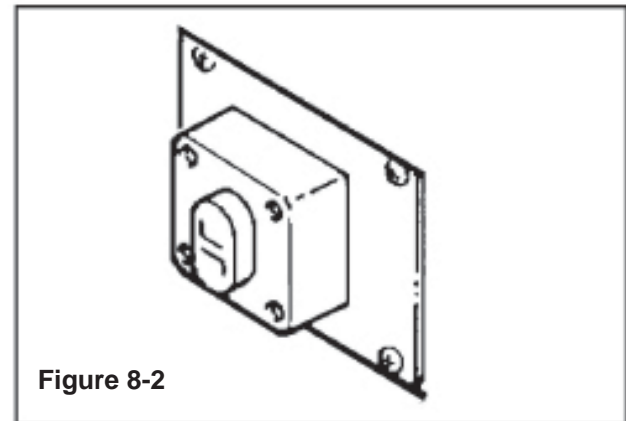

Figure 8-2
- Turn Main Switch to ON (I) Position (**Figure 8-2**).
- The main start switch "ON" (I) (**Figure 8-2**)